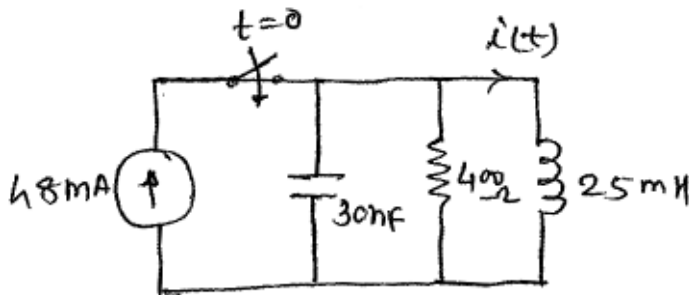

Fig.5a
5. a) In the circuit find the expression for $i(t)$ for $t > 0$ (Refer fig. 5a).